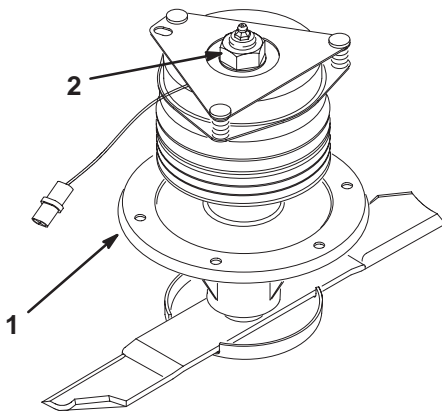

Figure 3
9. Remove the 6 flange head screws and locknuts securing the spindle housing to the cutting unit (Fig. 3). Slide the clutch and spindle housing assembly out the bottom of the cutting unit.
10. Remove the nut and the thrust washer securing the clutch to the spindle shaft (Fig. 3). Remove the clutch.
12. Reinstall the spindle housing to the cutting unit with the 6 flange head screws and locknuts previously removed (Fig. 3). Torque fasteners to 27–33 ft-lb.